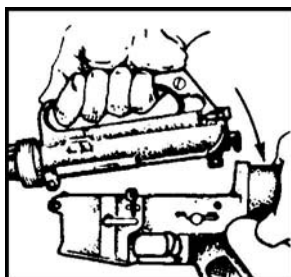

Figure 35. Joining the upper and lower receivers.
- l. Join the upper and lower receiver (Figure 35).